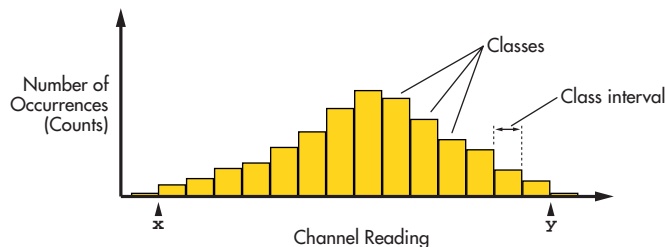

FIGURE 66 Histogram
- divide the measured data range into a number of intervals called **classes** (see Figure 66)